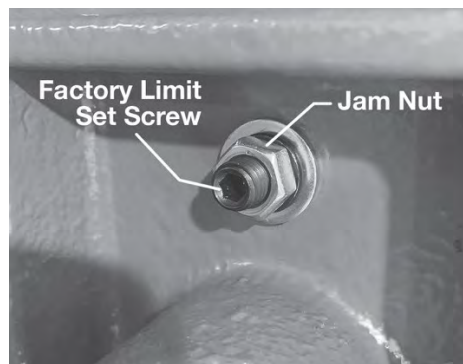

Figure 9-16: Factory Limit Set Screw and Jam Nut
1. Insert a 4mm hex wrench into the set screw. Using a 12mm open end wrench, loosen the jam nut (see Figure 9-16).